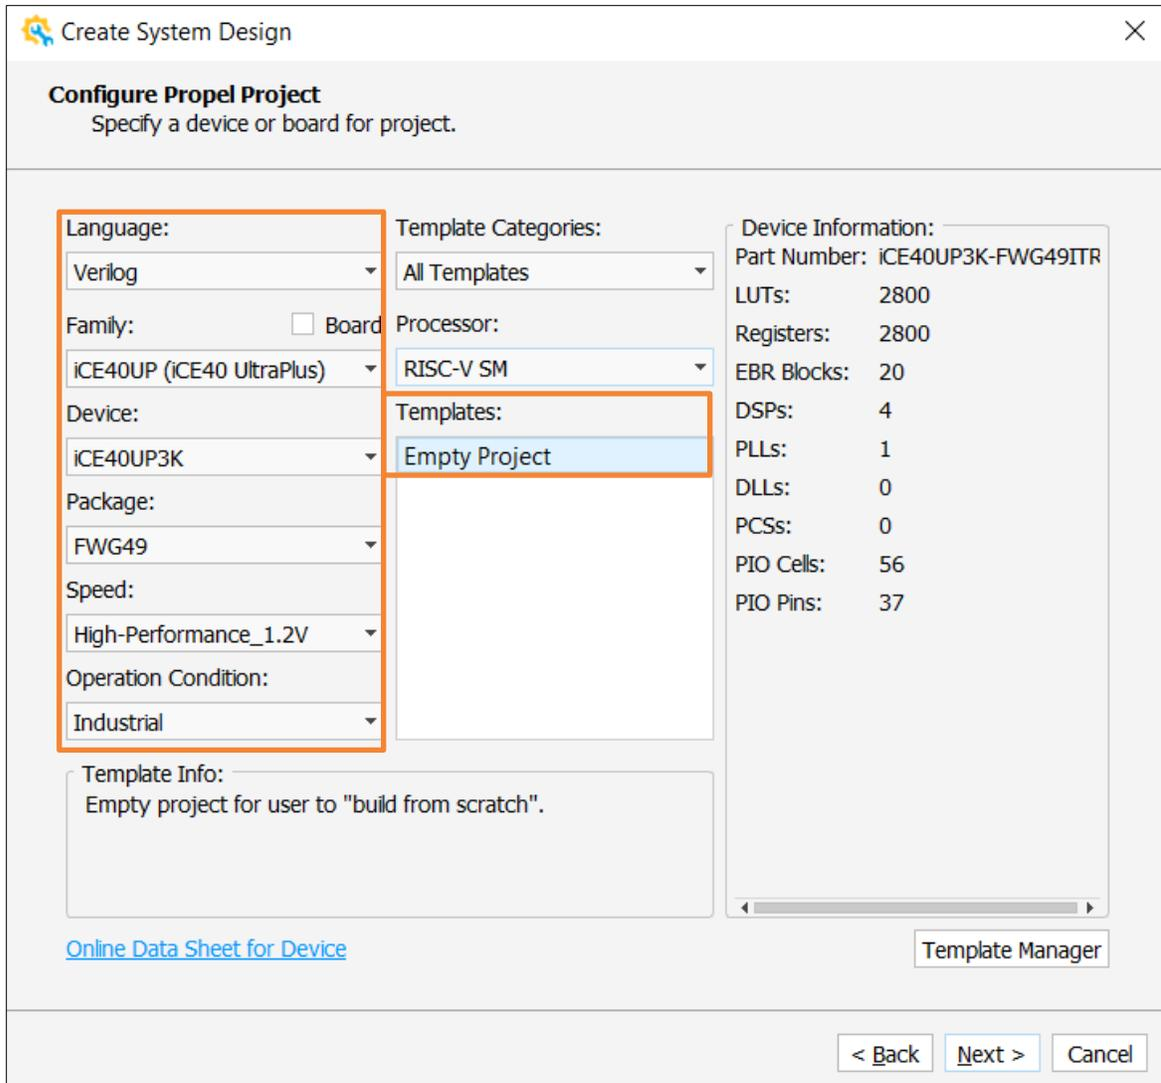

Figure 2.29. Specify a Device for Template SoC Project
6. Select **Empty Project** in the **Templates** field (Figure 2.29).